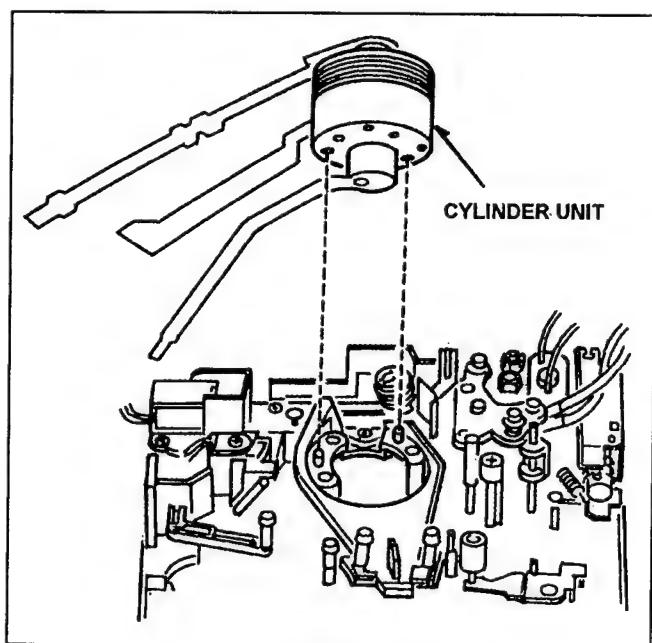

Fig. 4-1B
**Note:** When install the Cylinder Unit, the pin on Mech chassis should be match to hole of Cylinder Unit as shown in Figure 4-1B.